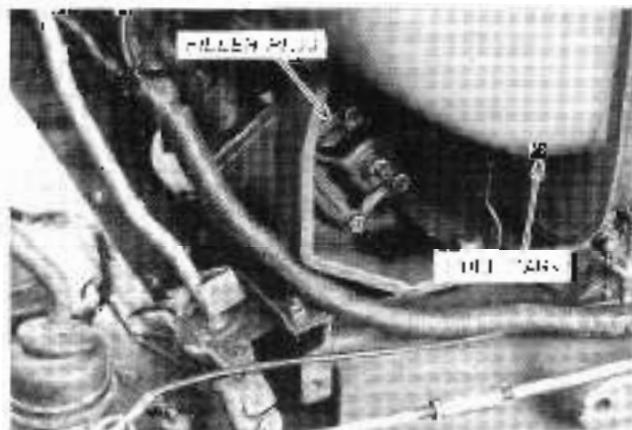

Figure 44 — Steering Gear Housing Filler Plug
2. Manually operate until level of the housing by turning the steering wheel (figure 44).